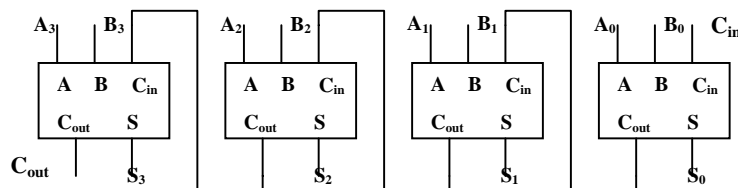

Figure 1: Block Diagram of an 8-bit Ripple Carry Adder
5. In the *RCA_8bit.v* file, declare the top level module of the 4-bit RCA, listing and declaring properly all the input and output wires. There should be 9 input wires (8 input + 1 Carry-in) and 5 output wires (4 sum and 1 Carry-out). This module will implement the functionality described by Figure 1.
6. After the Signal Declarations are out of the way, make four dummy instantiations of a module named *FullAdd*, with the instance names being Adder1 to Adder 4. This module, although not yet defined, will be used to implement a single Full adder; thus it will have 3 inputs and 2 outputs. This module will implement the functionality of any one of the 4 blocks shown in Figure 1. (For help with this, refer to Lab Guide, Verilog Chapter, Section 3.2)
7. Make sure to connect the input and output wires of all the *FullAdd* module instantiations properly, as shown in Figure 1.